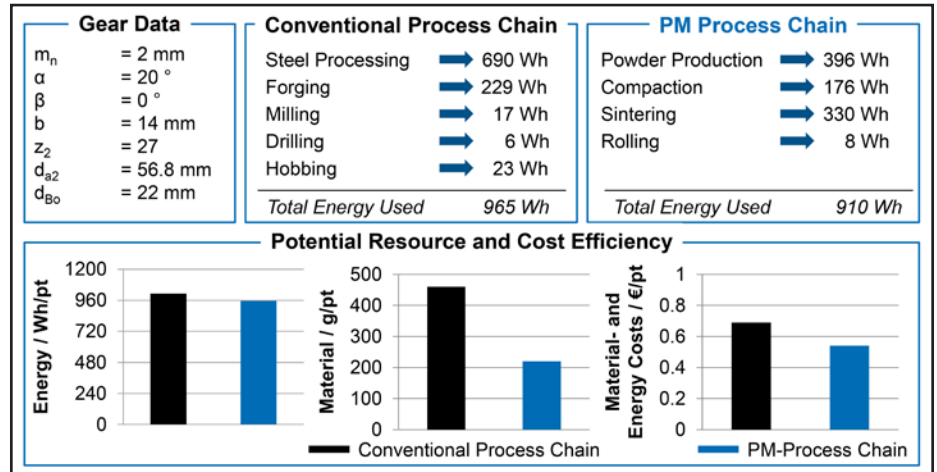

Figure 1 Cost and resource efficiency of PM gears.
Powder metal (PM) gears can be an energy and resource efficient replacement for conventional wrought gears (Ref.1). To illustrate the possible savings in resources and process energy, Figure 1 shows a comparison of the process energy of the PM and the conventional process chain for a gear with the typical size of an automobile gear of module $m_n = 2$ mm (Ref.3). Because of the near-net-shape process, PM gears require less raw-material-per-part. Thus, less energy is used per produced part. PM gears are, hence, an economic alternative for conventional gear manufacturing.